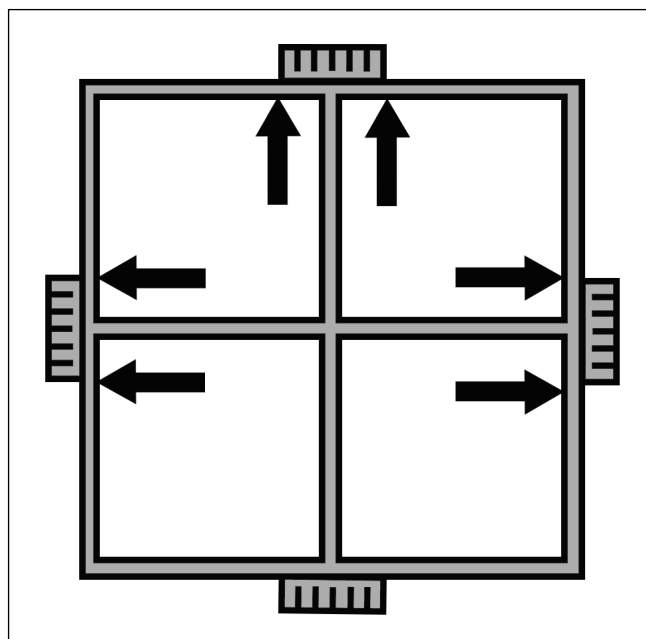

Figure 20
12. Additional screws are needed at all head jamb and jamb gussets, full or split. **DO NOT DRILL THROUGH THE SILL.** See Figure 20